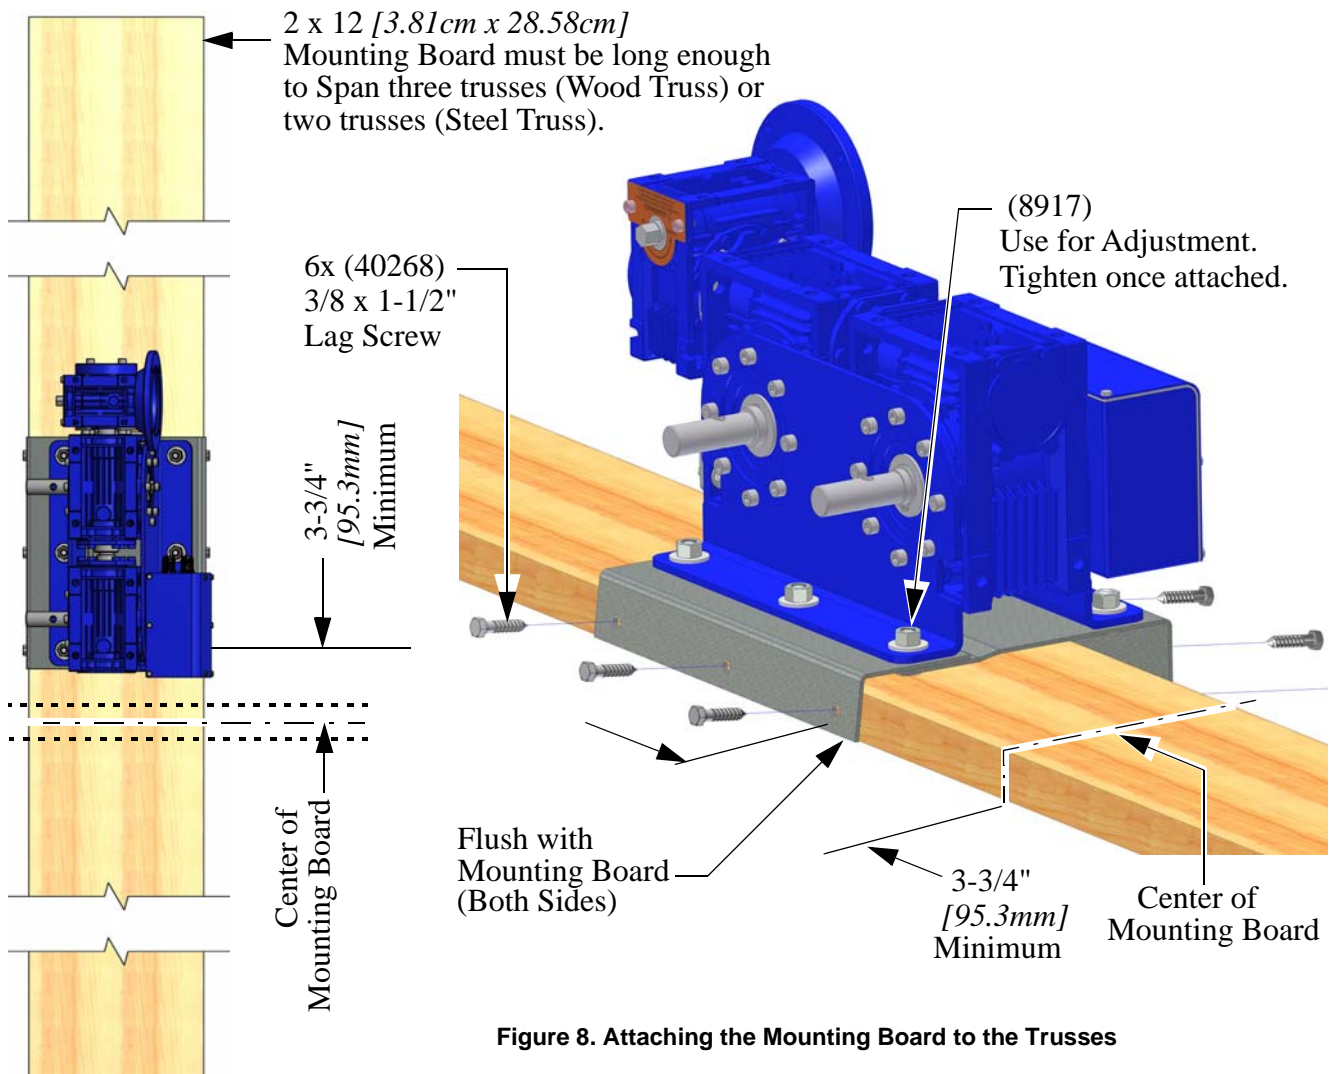

Figure 8. Attaching the Mounting Board to the Trusses
2. Cut a 2 x 12 [3.81cm x 28.58cm] to a length that will span three trusses when mounting to wood trusses (See Figure 8.)